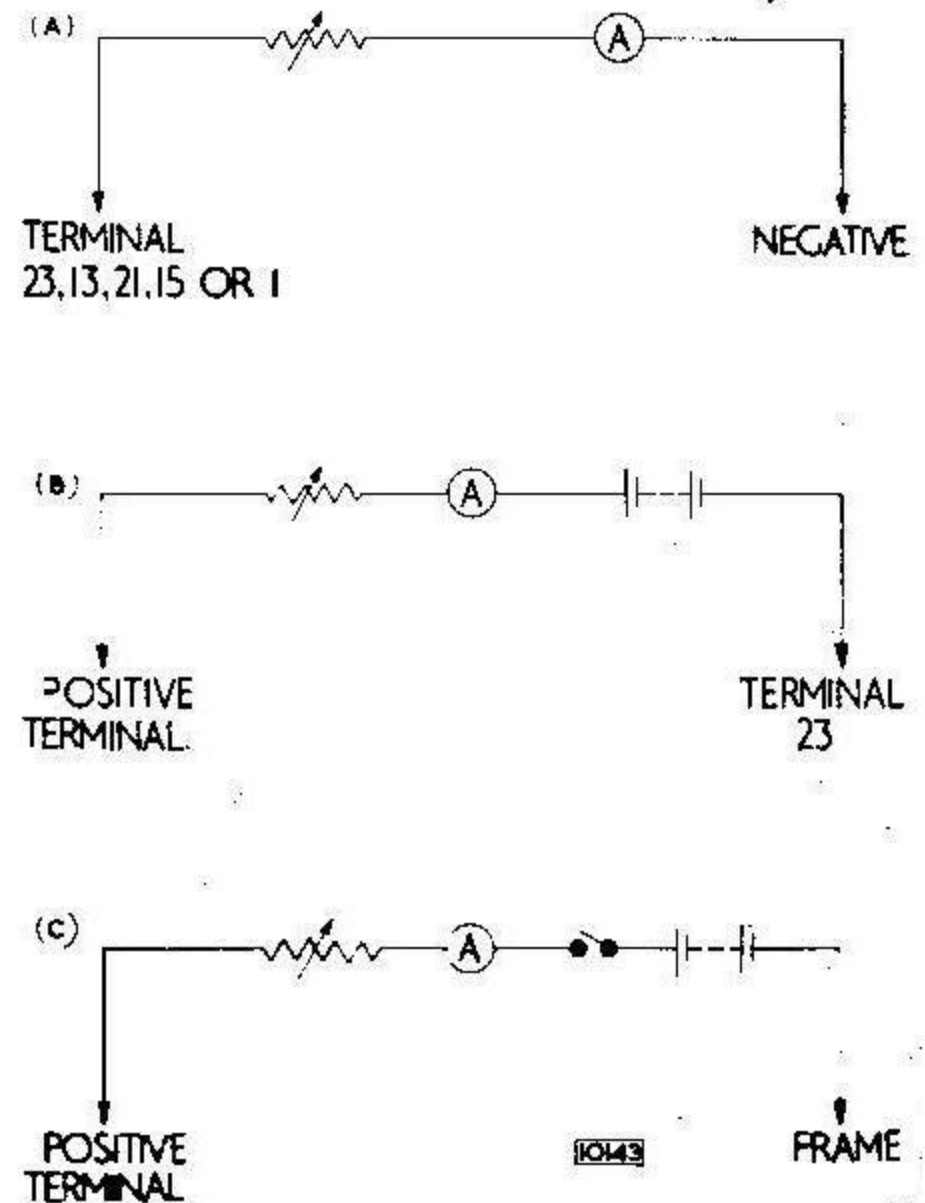

Fig. 27 Test circuit for L.17 relay
- (1) Open the battery cut-off switch.
- (2) Detach the selector switch from the mounting and remove the base cover.
- (3) Remove one lead (1, 13, 15, 21 or 23) from the selector switch terminals.
- (4) Connect the variable resistance and the ammeter between the free terminal and the negative terminal as shown in Fig. 27(A).
- (5) Set the resistance at maximum and select in the normal manner the gear corresponding to 1, 13, 15, 21 or 23 as in para: 3 above.
- (6) Close the battery cut-off switch.
- (7) Reduce the resistance gradually, watching the ammeter, until the relay operates. The current value at the instant before the relay operates is the pull-in value, and this must be within 1.20 to 1.25 amperes. After the relay has operated the current will fall to a lower value owing to the high resistance of the shunt coil.
- (8) If the correct pull-in value is not obtained the relay must be adjusted with the setting procedure as detailed on Page H.26.
- (1) Remove the base cover from the switch.
- (2) Connect a switched 24 volt supply with an ammeter and resistance to terminal 23 and positive terminal on the selector switch as shown in Fig. 27(B).
- (3) Set the resistance at maximum and select the gear corresponding to terminal 23.
- (4) Switch on the current and gradually reduce the resistance until the relay operates. The current value at the instant before the relay operates is the pull-in value and must be within 1.20 to 1.25 amperes.
- (5) If the correct pull-in value is not obtained the relay must be adjusted in accordance with the setting procedure as detailed on Page H.26.